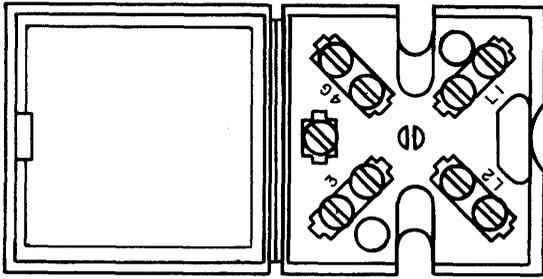
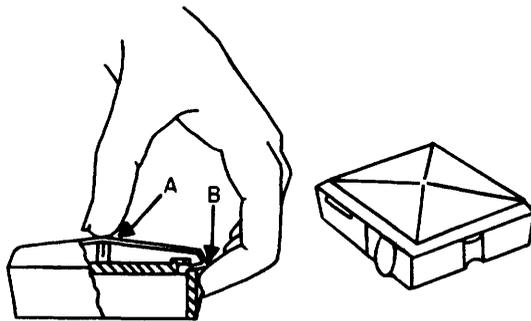

Figure 5. GTE AE Type 15 Connecting Block.
Figure 6. Method of Lifting Cover, GTE AE Type 13, 14, and 15 Connecting Blocks.
2.05 GTE AE Type 13 (D-150206), 14 (D-150207) and 15 (D-150290) connecting blocks are three-, four- and five-conductor devices, respectively, arranged with two terminal screws for each of the first four conductors and one terminal for the fifth, on a molded polypropylene block with an integral hinged cover (Figure 5). The double-screw terminals are arranged radially about a short, molded, split center-post and designated L2, L1, 4G and 3 reading clockwise from the lower right corner. Terminal 3 is provided only on the Type 14 and 15 blocks. Single-screw terminal 5, provided only on the Type 15 block, is located adjacent to the top or hinged side of the block between terminals 3 and 4G. Two protruding prongs on each terminal engage slots molded into the block and, together with adjacent depressions and screw clearance holes, permit the terminal to be held in place by a press fit. A Type 13 block may be converted to a Type 14 by pressing a D-150209-A two-screw terminal link into place with one's fingers. A Type 14 block manufactured after May, 1963 (including a Type 13 to which the above link has been added) may be converted to a Type 15 by pressing a D-150289-A single-screw terminal link into place at position 5. The cover is arranged with a molded snap catch which may be released either by rotating a screwdriver blade or coin in one of the slots adjacent to the catch or by pressing down directly in the center of the domed cover, which is thereby deformed enough to free the catch and permit the cover to be bent back with one's thumb (Figure 6). An inclined ramp at each side permits station wire to enter either from the side or from behind the block. Although the base of the block is shellmolded, the web is solid at the point of ramp entry, making it impossible to intertwine the wire conductors around the base stud to secure them in place. The slope of the ramp tends to force jacketed wire away from the mounting surface when side entry is made and, thus, requires use of a staple immediately adjacent to the ramp at the edge of the block. Either ramp may also be used for line-cord entry, with the split center-post serving to retain a ring-band strain relief, and a slit molded on either side to accommodate a wing-band. The block is not suitable for use with cords equipped with S-hooks.